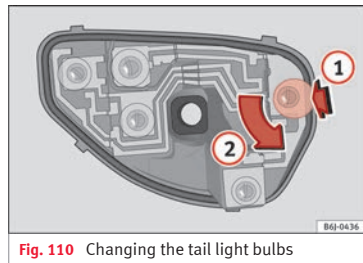

Fig. 110 Changing the tail light bulbs
- When the bulb holder has been removed, press in the direction of the arrow **(1)** and at the same time, turn in the direction of the arrow **(2)** **»» Fig. 110**